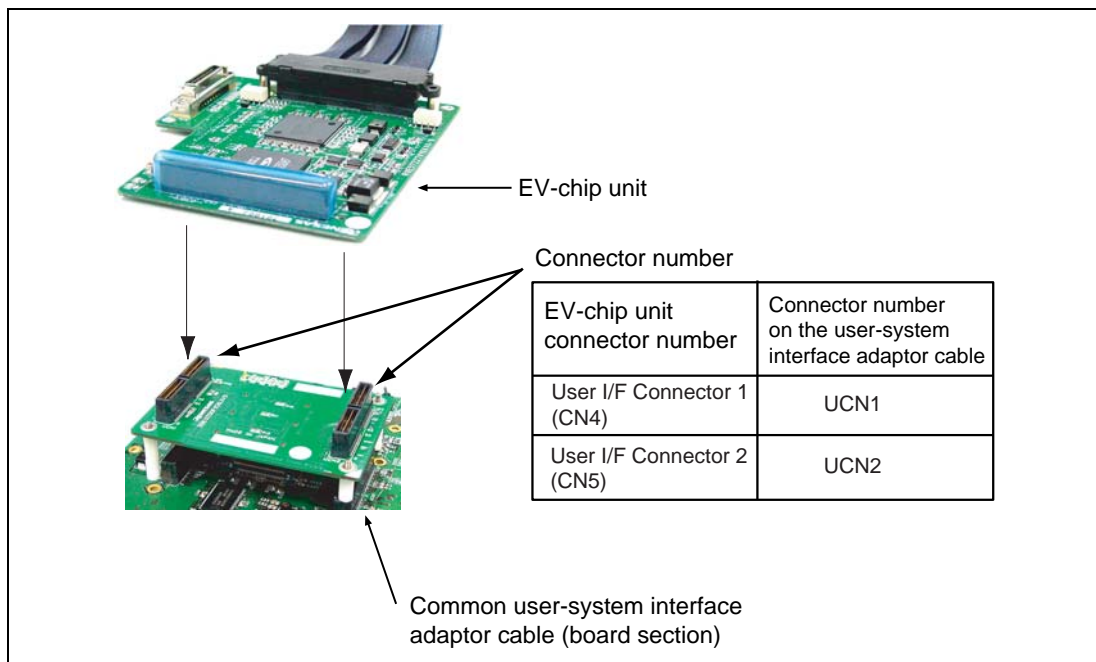

Figure 10 Connecting the User System Interface Board to the EV-Chip Unit
2. Align the connectors on the board with those on the EV-chip unit according to their numbers (figure 10).